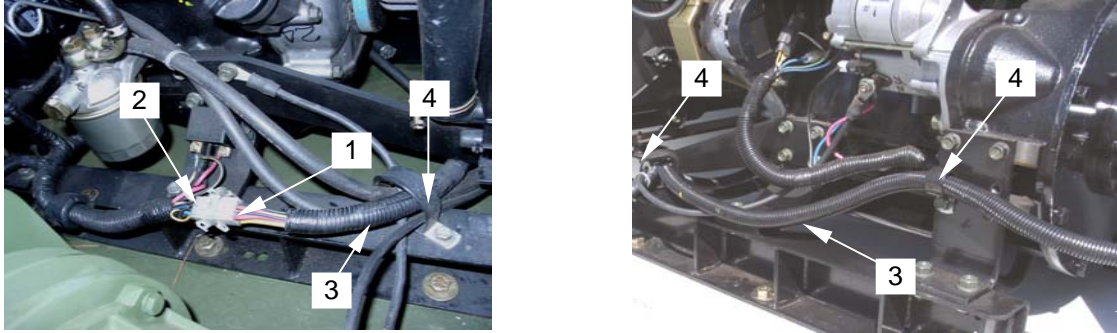

Figure 33. Installing Wire Harness
30. Connect wire harness plug (**figure 33, item 1**) to engine harness plug (**figure 33, item 2**) and install wire harness (**figure 33, item 3**) onto engine cable retainers (**figure 33, item 4**).